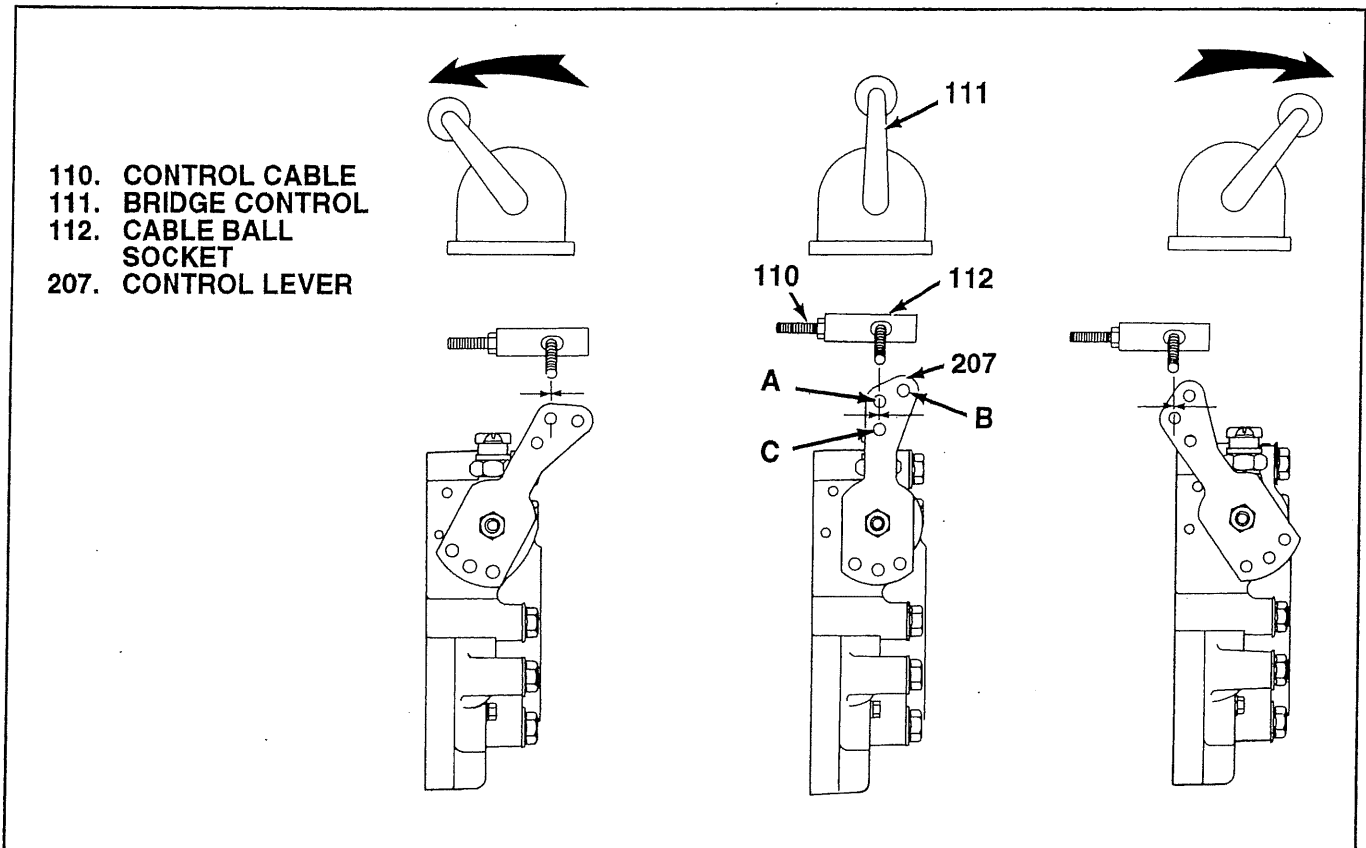

Figure 2-3. Control Cable Adjustment
2-15. With the engine shut down, make cable adjustment as follows (see figure 2-3):
**NOTE:** Before the following steps, determine which hole the control cable is connected to, A, B, or C. The center hole is the one most commonly used. Stop to stop travel of the center hole (A, figure 2-3) is approximately 2-3/4 in. (70MM). Stop to stop travel for the outer hole (B) is 3 in. (76MM). Stop to stop travel for the inner hole (C:) is approximately 2-3/32in.(53MM).
1. Disconnect control cable from transmission shift lever (207).
2. Place bridge control lever (111) in central, neutral position.
3. Move transmission shift lever (207) to its central neutral position. Make sure lever detent ball is engaged.
4. Adjust cable ball socket (112) to align with proper hole in transmission shift lever (207). Once established, this setting should not need to be altered.